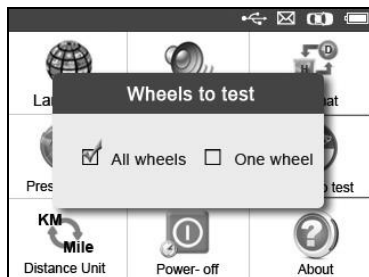

Figure 3.8
- 2) From **Wheel to test** screen, use the **LEFT/RIGHT** scroll button to select **All Wheels** or **One Wheel** mode for TPMS sensor testing. (Figure 3.8)